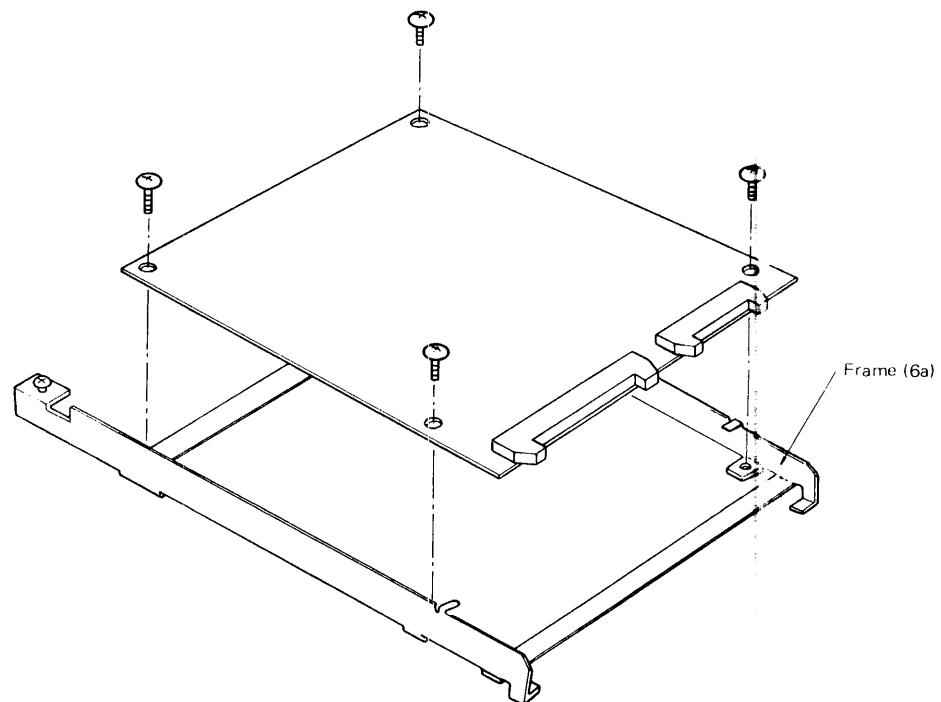

Figure 3-5-14 Dual Channel Option Installation 2
(E) Mount the dual channel PC board on the frame (6a) using screws SBD M3x5. (See Figure 3-5-14.)
- (1) Mount the dual channel PCB on frame as shown in Figure 3-5-14.